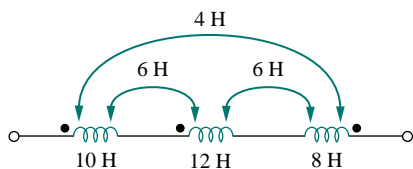

Figure 13.73 For Prob. 13.2.
13.2 Determine the inductance of the three series-connected inductors of Fig. 13.73.